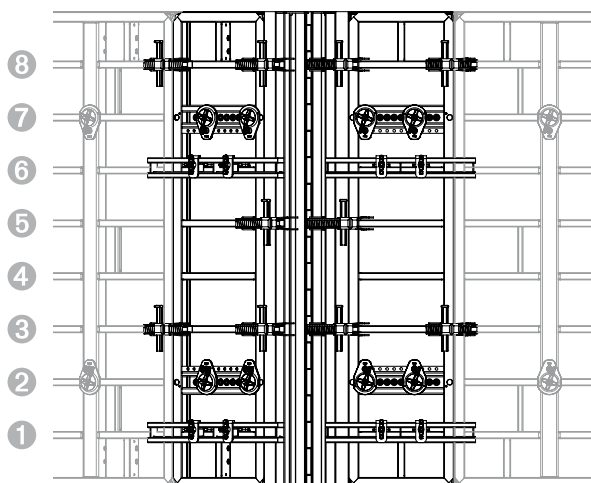

Fig. B8.06
- Wall thickness 30 cm - shown. The illustrations in Fig. B8.06 + B8.07 apply to 65° to 150° corners and can also be used for 75° and 165° corners. The panel strut actually used is specified in the respective "Arrangement of panel connections" tables.